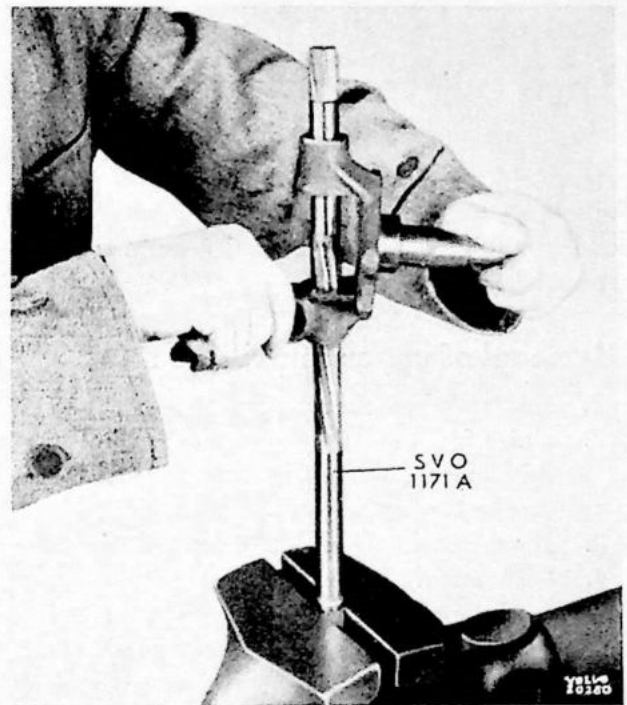

Fig. 14. Reaming of king pin bushings.
2. Ream the bushings with reamer SVO1171A (fig. 14) which shows an earlier type reamer, and check that the king pin has a light thumb fit. Fit the grease nipples and apply a little chassis lubricant to the bushings.